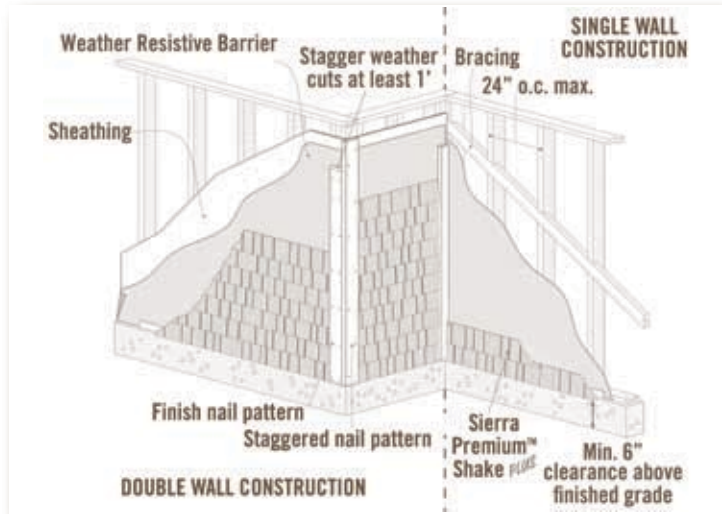

Fig. 12.1
- Sierra Premium™ Shake Plus and Smooth boards can be installed directly on braced wood construction spaced at a maximum of 24" o.c. or over sheathing with vertical solid wood backing. Please contact Nichiha regarding installation over steel frame construction. (Fig. 12.1)